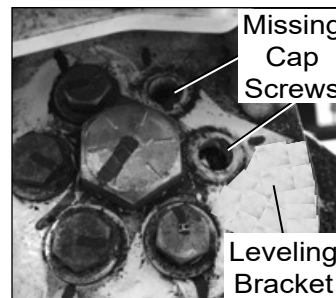

Figure 2 – Inspecting Cap Screws
5. Visually inspect the top of the platform leveling bracket to check whether any of the six rotary actuator mounting cap screws are missing (refer to Figure 2). If any cap screws are missing, proceed to step 11.